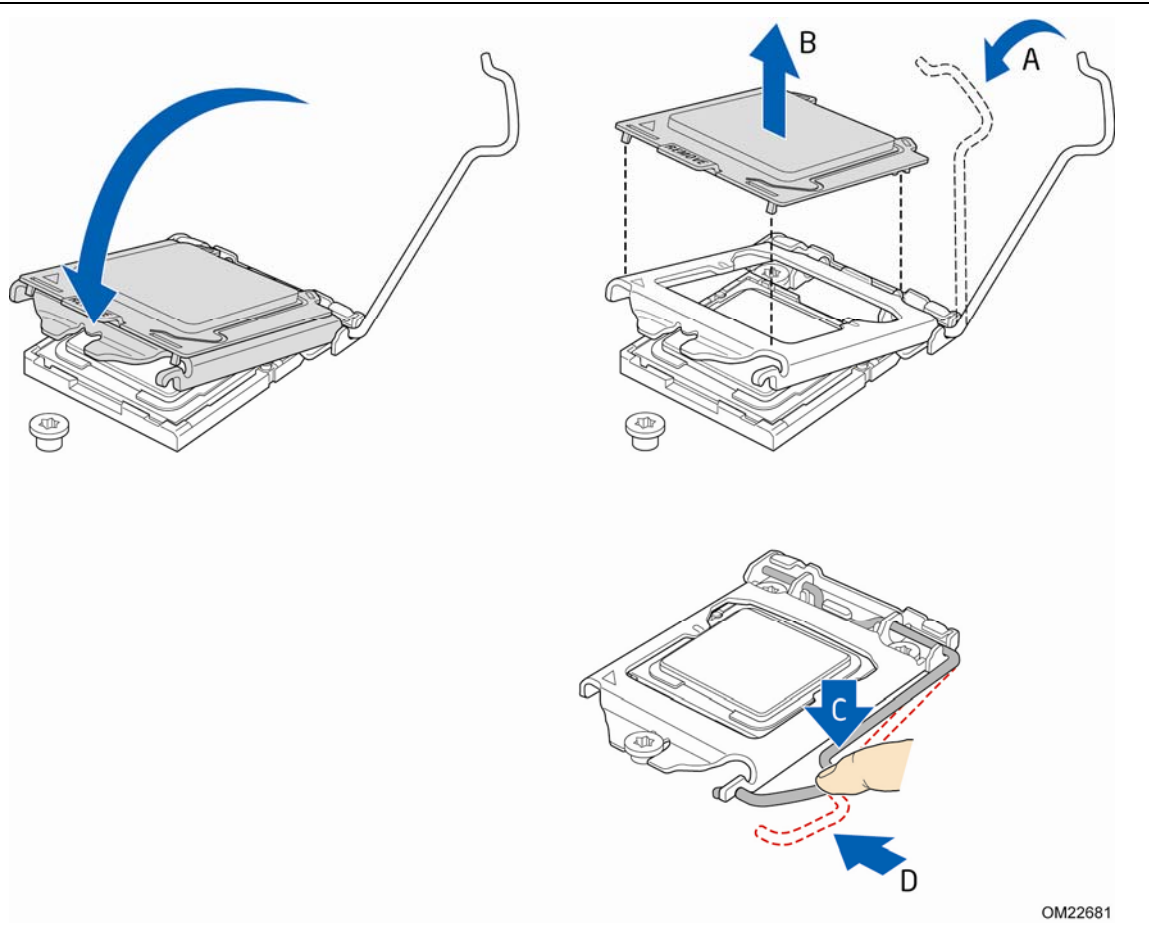

Figure 11. Secure the Load Plate in Place
- Carefully lower the socket lever (Figure 11, A) while making sure that the front edge of the load plate slides under the shoulder screw cap as the lever is lowered. Latch the socket lever under the load plate tab (Figure 11, C, D). The socket cover (Figure 11, B) will pop off as shown.